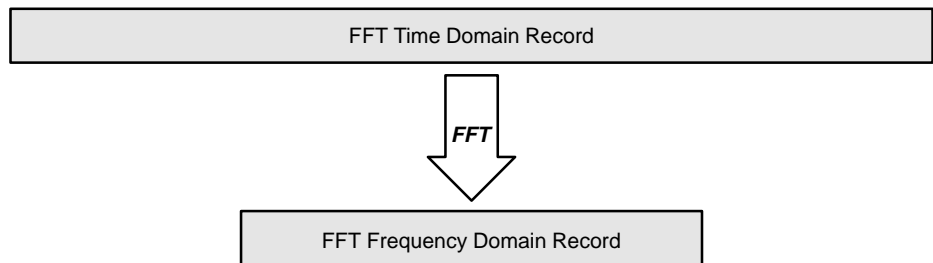

Figure 3-25: FFT Time Domain Record vs. FFT Frequency Domain Record
**FFTs Transform Time Records to Frequency Records** — The FFT time domain record just described is input for the FFT. Figure 3-25 shows the transformation of that time domain data record into an FFT frequency domain record. The resulting frequency domain record is one half the length of the FFT input because the FFT computes both positive and negative frequencies. Since the negative values mirror the positive values, only the positive values are displayed.